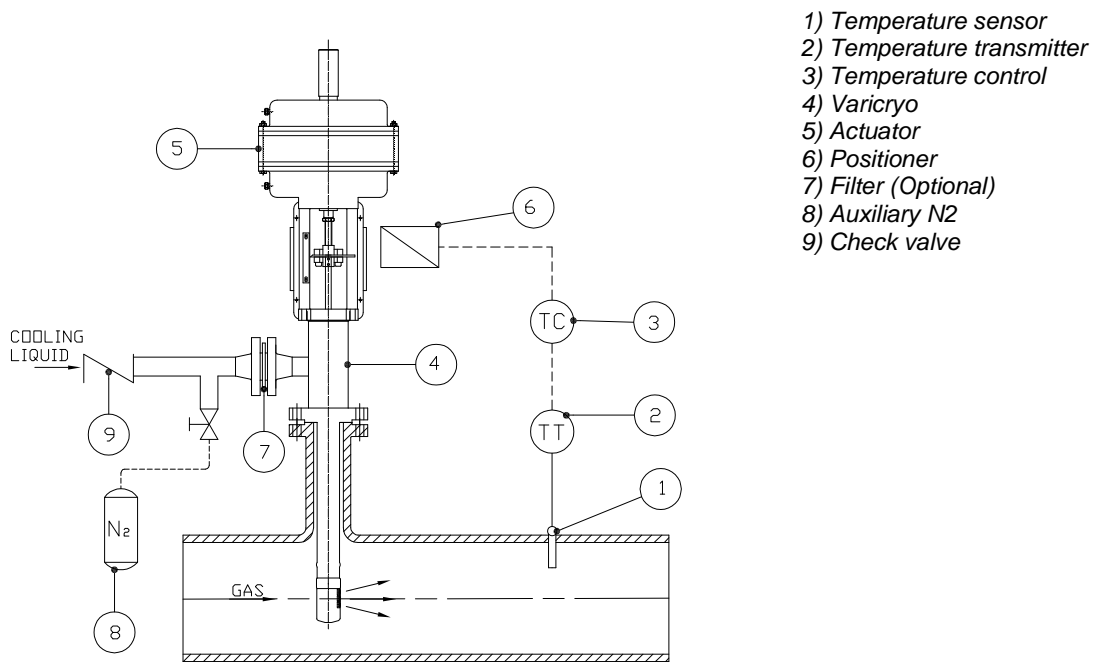

Fig. 3
Longer distances ensure complete evaporation of the liquid at lower process gas speeds. The temperature sensor must be located in the top half of the pipe. Avoid fitting branches of the vapour pipe between the desuperheater and the sensor (see Fig. 3).
The cooling fluid must be clean filtered and must be at constant pressure at all times, as specified in the order documents. Each liquid supply line must be protected by its own filter with maximum mesh size 50 (mesh 20 acceptable for nozzles from 'E' upwards). On request Carraro can supply a supplementary filter(see fig 3 item 7). The mainly application of Carraro's filter is to clean cooling liquid from particles during the start up operations. If no other filter system is installed this filter can be left and periodically inspected.
As for the process gas pipe, use gaskets and fasteners which comply with the codes of the respective pipes. The liquid supply line must be free of any trace of liquids which can solidify. If necessary flushing by appropriate medium must be provided before connecting the mounting flange of the desuperheater (see Fig. 3).